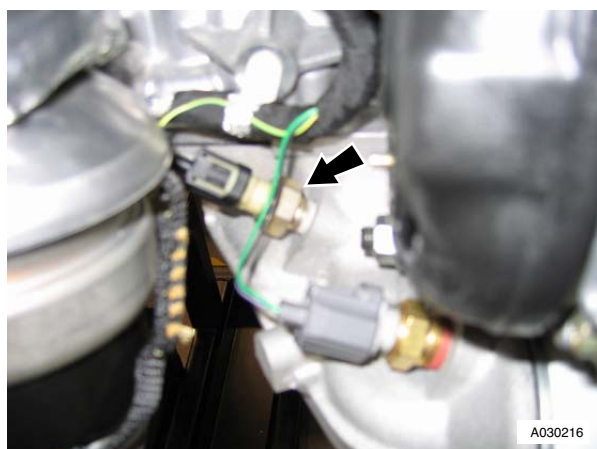

Figure 1
2. Disconnect multiplug from oil pressure sensor (refer to Figure 1).